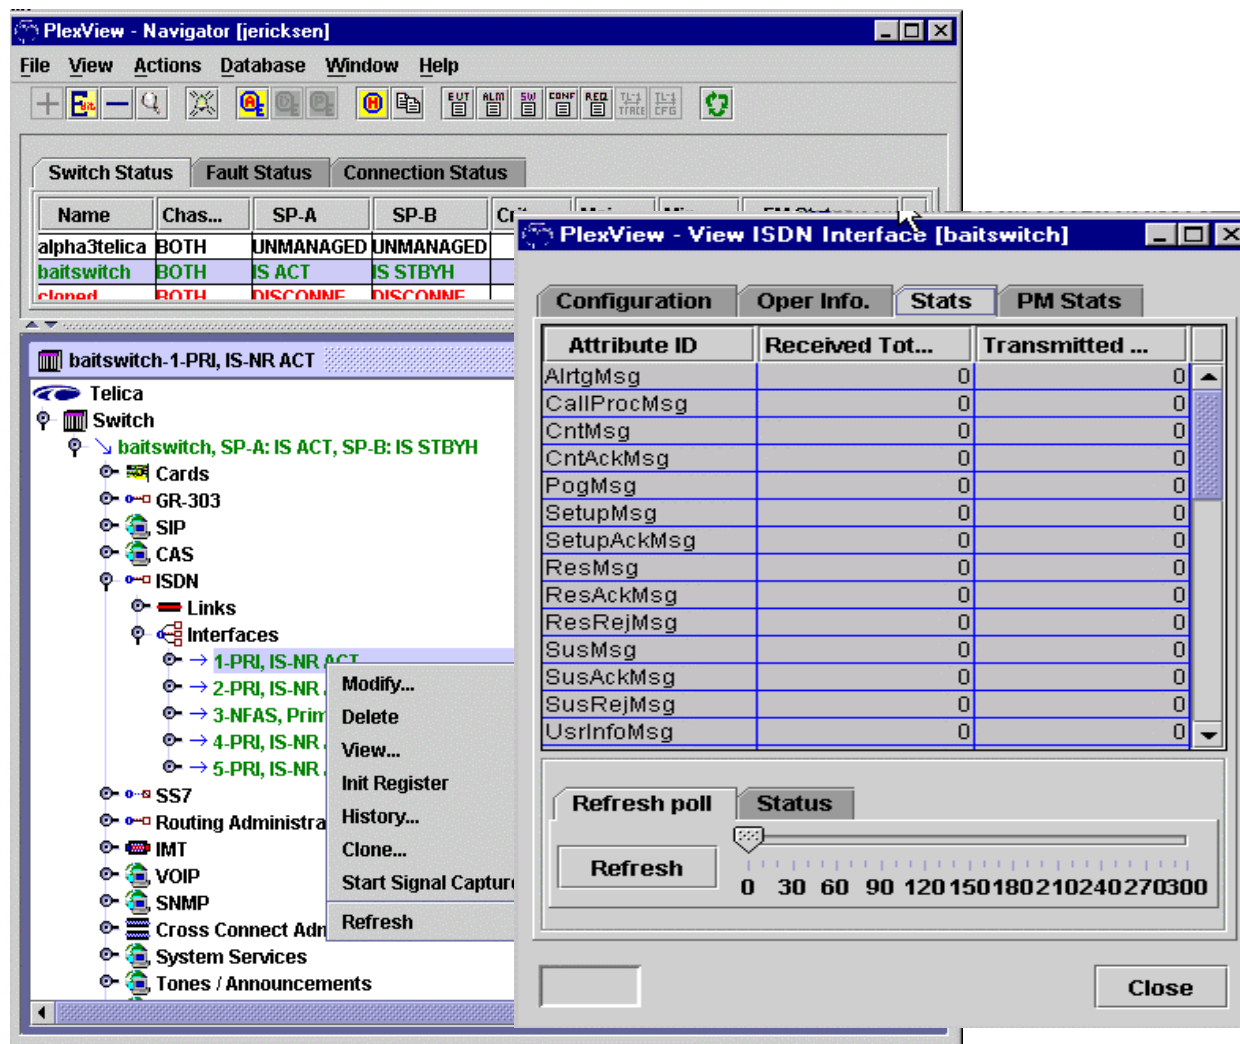

Figure 1. ISDN Interface
5. Retrieve statistics for the total number of the various ISDN messages transmitted and received, and the last transmitted and received cause and diagnostic codes. Double-click the switch to select it for the main panel and then right-click the switch name. Double-click *ISDN* and then *Interfaces*. Right-click an interface and select *View, Stats* and then click *Refresh* near the bottom of the panel for latest information. Refer to Figure 1.